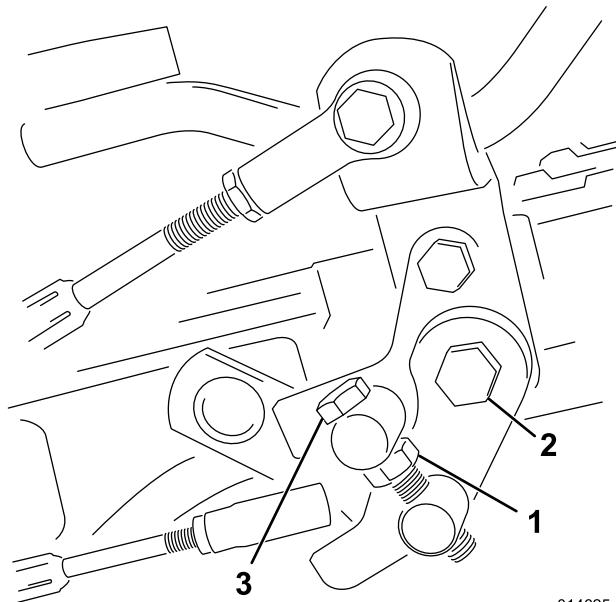

Figure 39
4. Tighten the jam nut on the trunnion bolt and the nut on the pedal pivot to lock the adjustment (Figure 39). Check the adjustment and adjust as required.